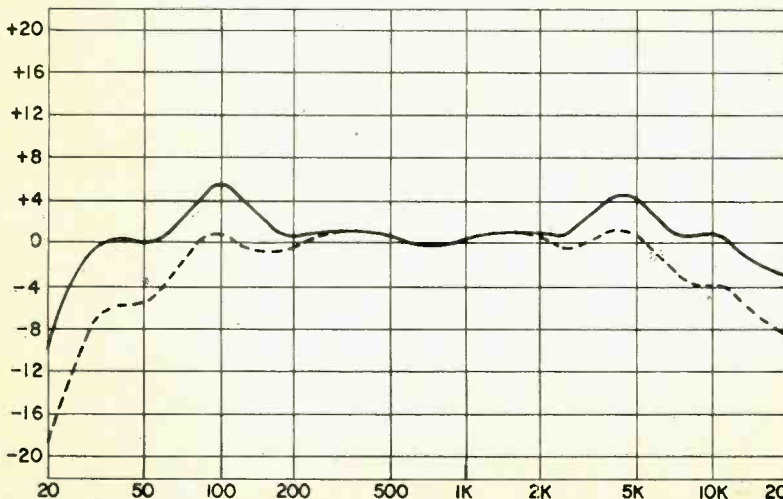

Fig. 3. Solid line shows response with mid-bass speaker or room peak and high recording peak. Dashed line shows effect of variable-inflection control.
**Limitations of Both Types.** Both have their limitations, though. Figure 3 shows the over-all frequency response of a hypothetical (although by no means atypical) commercial recording, played through a system
**Use of an Equalizer.** To the audio engineer, an equalizer is anything which affects frequency response, and thus includes tone controls. In audiophile parlance, though, the term equalizer applies to a specific kind of tone control that allows you to vary the response of portions of the audio spectrum between the extreme low or extreme high ranges without affecting either of those ranges. The preamp I was discussing with my friend was equipped with such an equalizer, although of a rather rudimentary kind. Some of the costlier varieties divide the audio spectrum into as many as 10 bands, each about an octave wide, and assign each band its own "volume control." The Soundcraftsmen, for example, has controls affecting individually the ranges from 20 to 40, 40 to 80, and 80 to 160 Hz. The uppermost of these could most effectively eliminate the boom peak from Fig. 3, while the 2560-5120 control would do a nice job of de-shrilling the recording, and neither correction would affect the rest of the audio spectrum in any way.